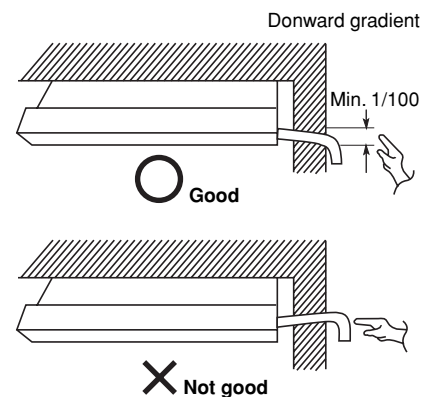

Fig. 3-107
- (1) Drain hose connection
- (2) Installing the drain hose
- Connect the drain piping so that it slopes downward from the unit to the outside. (Fig. 3-107)